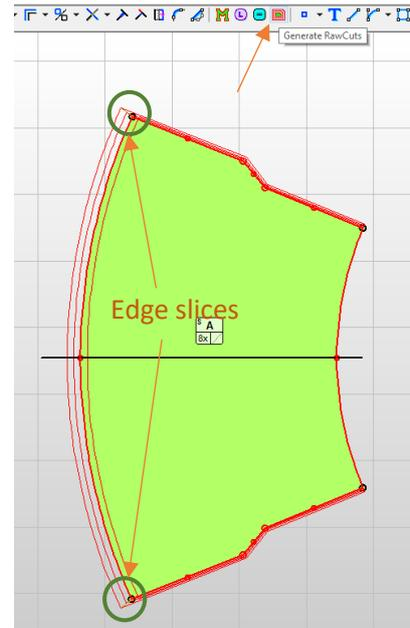
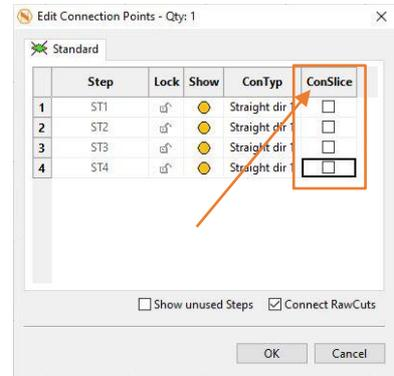

Figure 114
Figure 116
21. If you want to show the RawCuts in the sketcher Drawing Area as well, just click the -Generate RawCuts- button  (Figure 114).
23. As indicated in Figure 114, NestKing adds some edge slices at the top and bottom edges. In this case we don't really need them. To remove these slices double-click the first connection point (green circle) at the top and remove the checkmarks of the **[ConSlices]** checkboxes for all four steps (Figure 116).
24. Confirm and save the changes with (Figure 116).